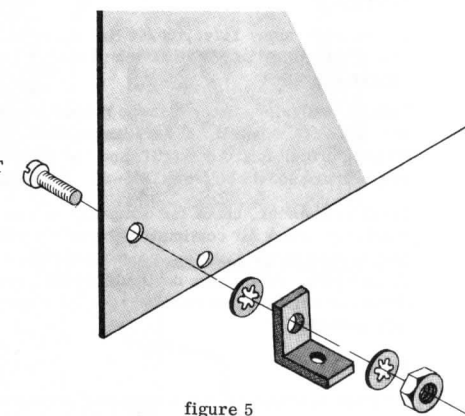

figure 5
- ( ) Fasten the two "L" brackets to the front panel using one 4-40 X 1/4 inch machine screw, one 4-40 nut and two lock nuts on each bracket as detailed in figure 5. Note that the un-threaded hole on the "L" bracket is used in this operation. DO NOT COMPLETELY TIGHTEN THESE SCREWS AT THIS TIME.